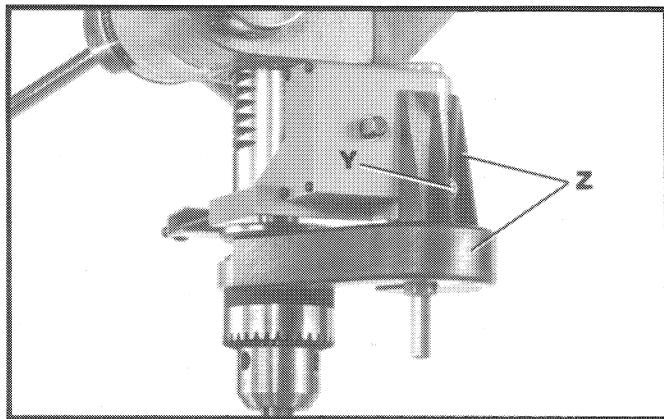

Fig. 17
15. Fig. 17, illustrates the belt and pulley guard (Z) assembled to the gear box.